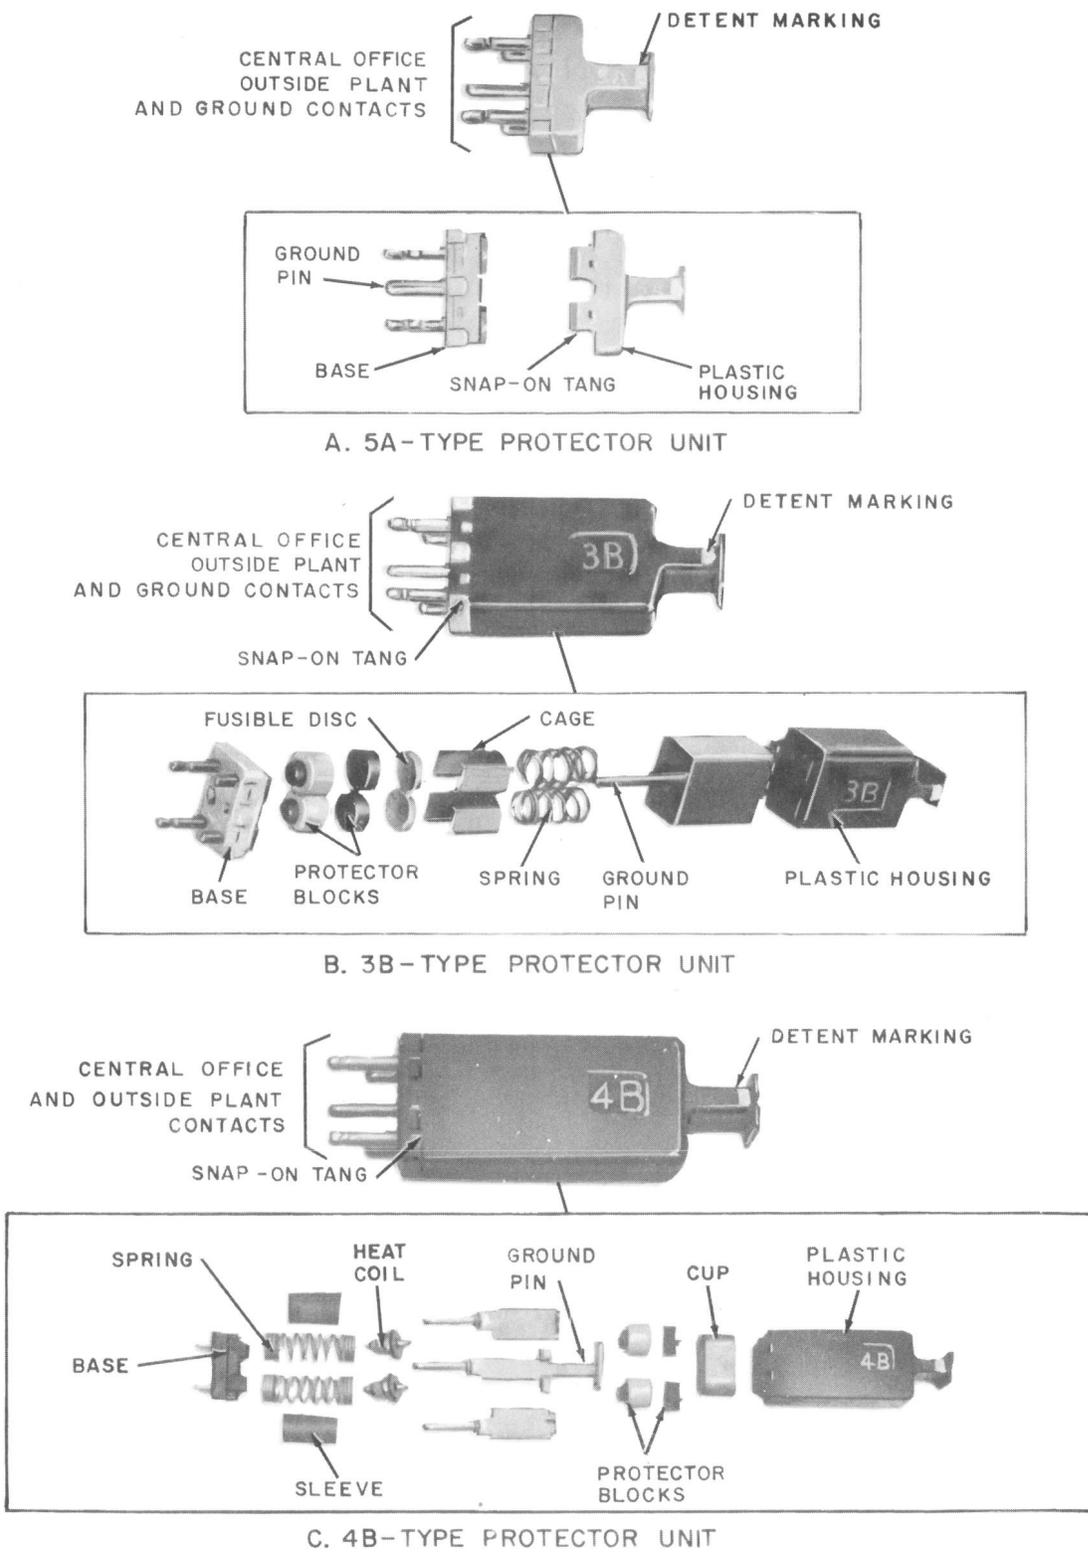
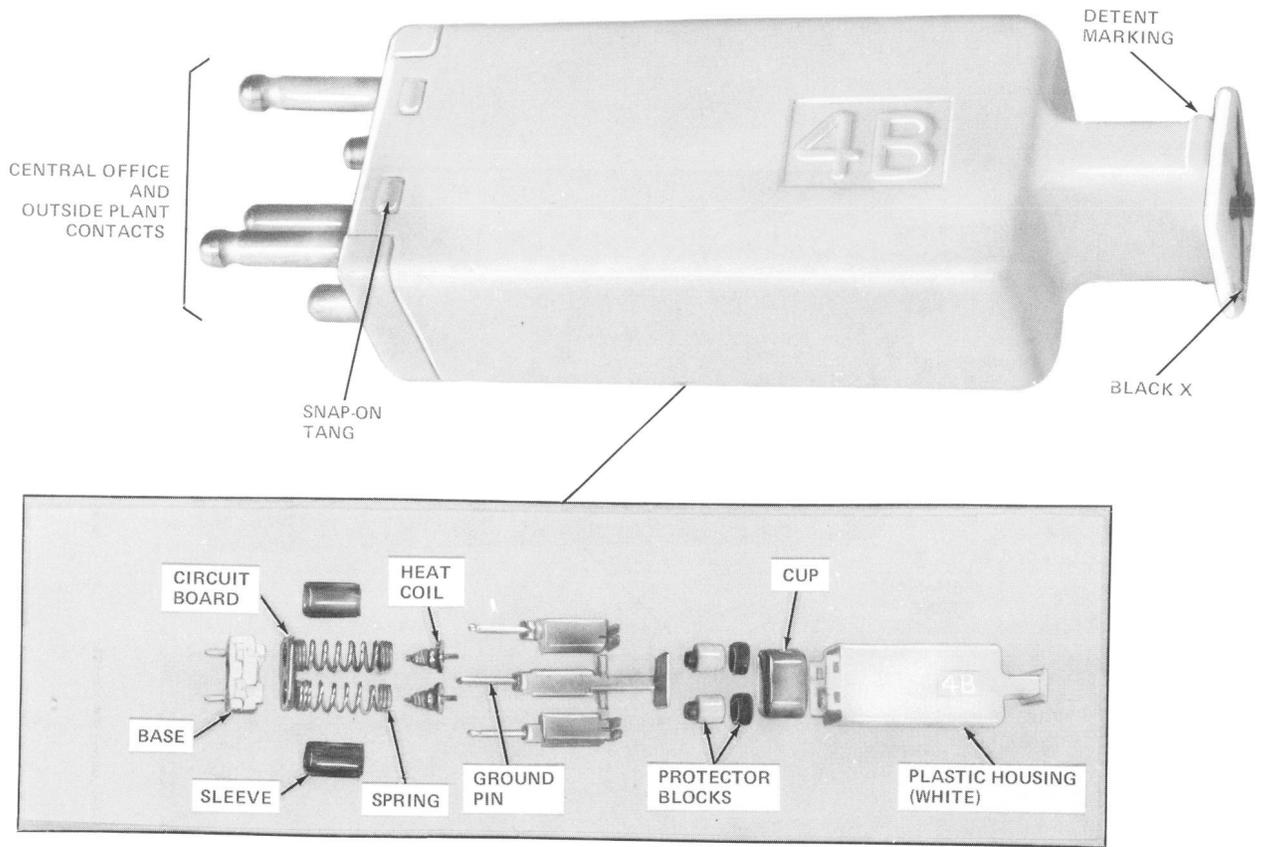

Fig. 1—Protector Units
Fig. 2—4B9C Protector Unit (Line Reversing)
2.01 The 3-, 4-, and 5- series plug-in protector units are shown in Fig. 1. Related auxiliary devices (reversing plug and mini-bridge lifter) are shown in Fig. 2 and 3, respectively. The protector unit code, year, and quarter of manufacture appear on the plastic housing.
3.02 The 3B-type plug-in protector units (Fig. 1) contain protector blocks and are used on circuits requiring voltage protection only. The 3B2A plug-in protector unit ([green] used to deny service) provides voltage protection for the outside plant, but does not provide continuity to the central office equipment.
3.03 The 4B-type (Fig. 1) plug-in protector units contain protector blocks and heat coils and are used on circuits requiring both voltage and sneak current protection. The 4B2C ([green] used to deny service) is equipped with protector blocks and insulating dummy heat coils and provides voltage protection for the outside plant, but no continuity to the central office equipment.
3.04 The 4B9C (Fig. 2) plug-in protector unit (white) contains a polarity reversing board in addition to the standard protector blocks and heat coils. The "X" marked on the finger grip indicates that the tip and ring out are reversed from tip and ring in.
3.06 The 5A-type plug-in protector units (Fig. 1) may be used to provide circuit continuity where *no* protection is required. The 5A2D ([green] used to deny service) plug-in protector unit does not provide continuity between outside plant and central office cables.